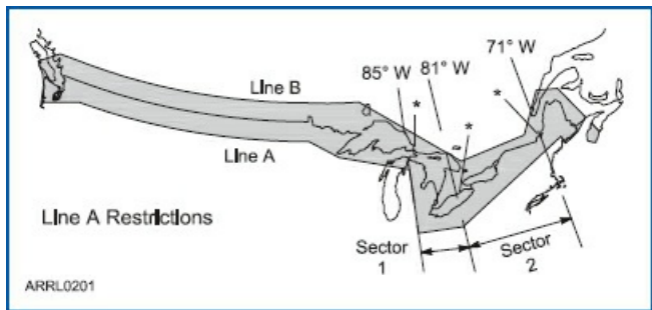

Figure 3.5 — Line A runs parallel to, and just south of, the US/Canadian border.
may not transmit on the 420 to 430 MHz band. [E1F05] Section 97.3(a)(29) gives an exact definition of Line A. See **Figure 3.5**.